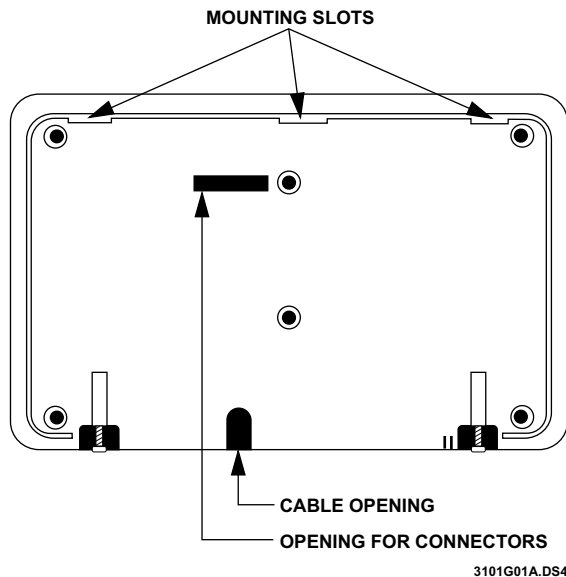

Figure 1. Touchpad Mounting Slots
1. Separate the mounting bracket from the back plate by loosening the screws and unlatching the tabs from the mounting slots (figure 1).